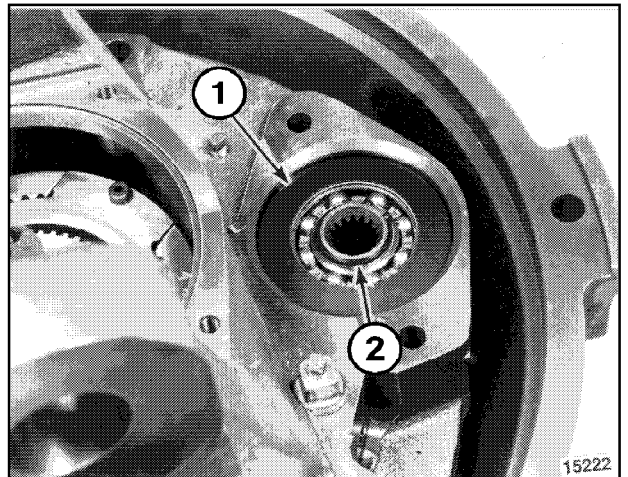

Figure 75
- N. Install disc spring (1, Figure 75) over pinion assembly (2).